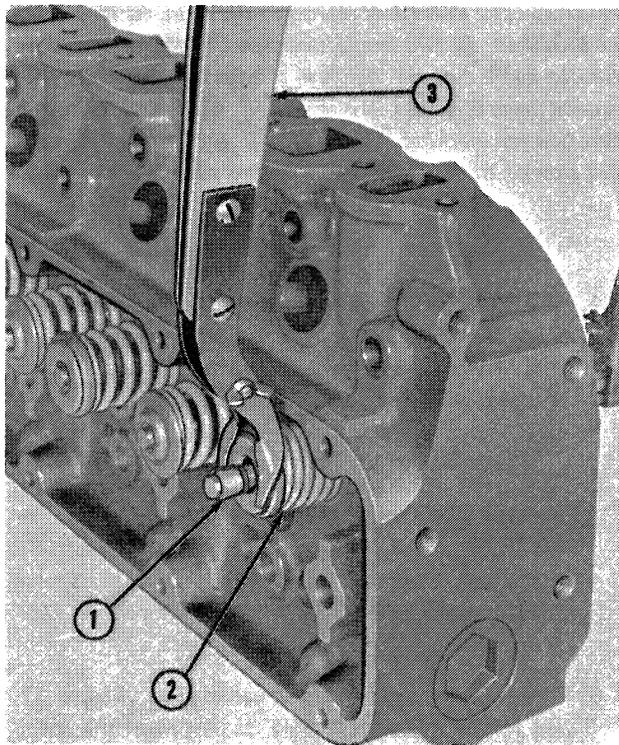

Figure 8
2. Position the valve spring compressor over the valve and spring, as shown in Figure 8, and compress the spring.